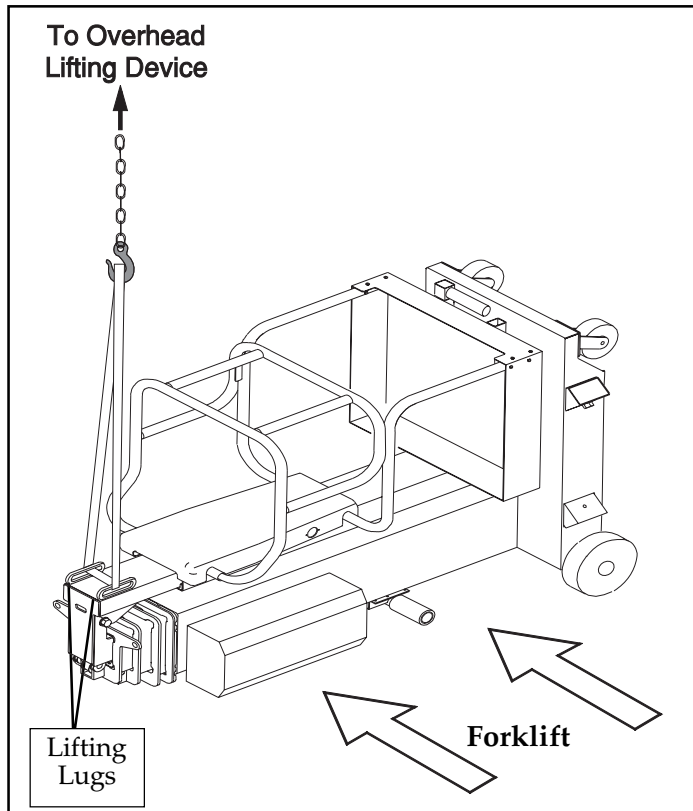

Figure 2-1: Lifting UL Lifts
5. Using a forklift, raise the machine up far enough to remove the base of the crate (Figure 2-1). Lower the machine.
4. Place a lifting strap through the lifting lugs located on the cage support assembly and to a suitable lifting device (Figure 2-1). Lower the machine with the lifting device to the horizontal position.